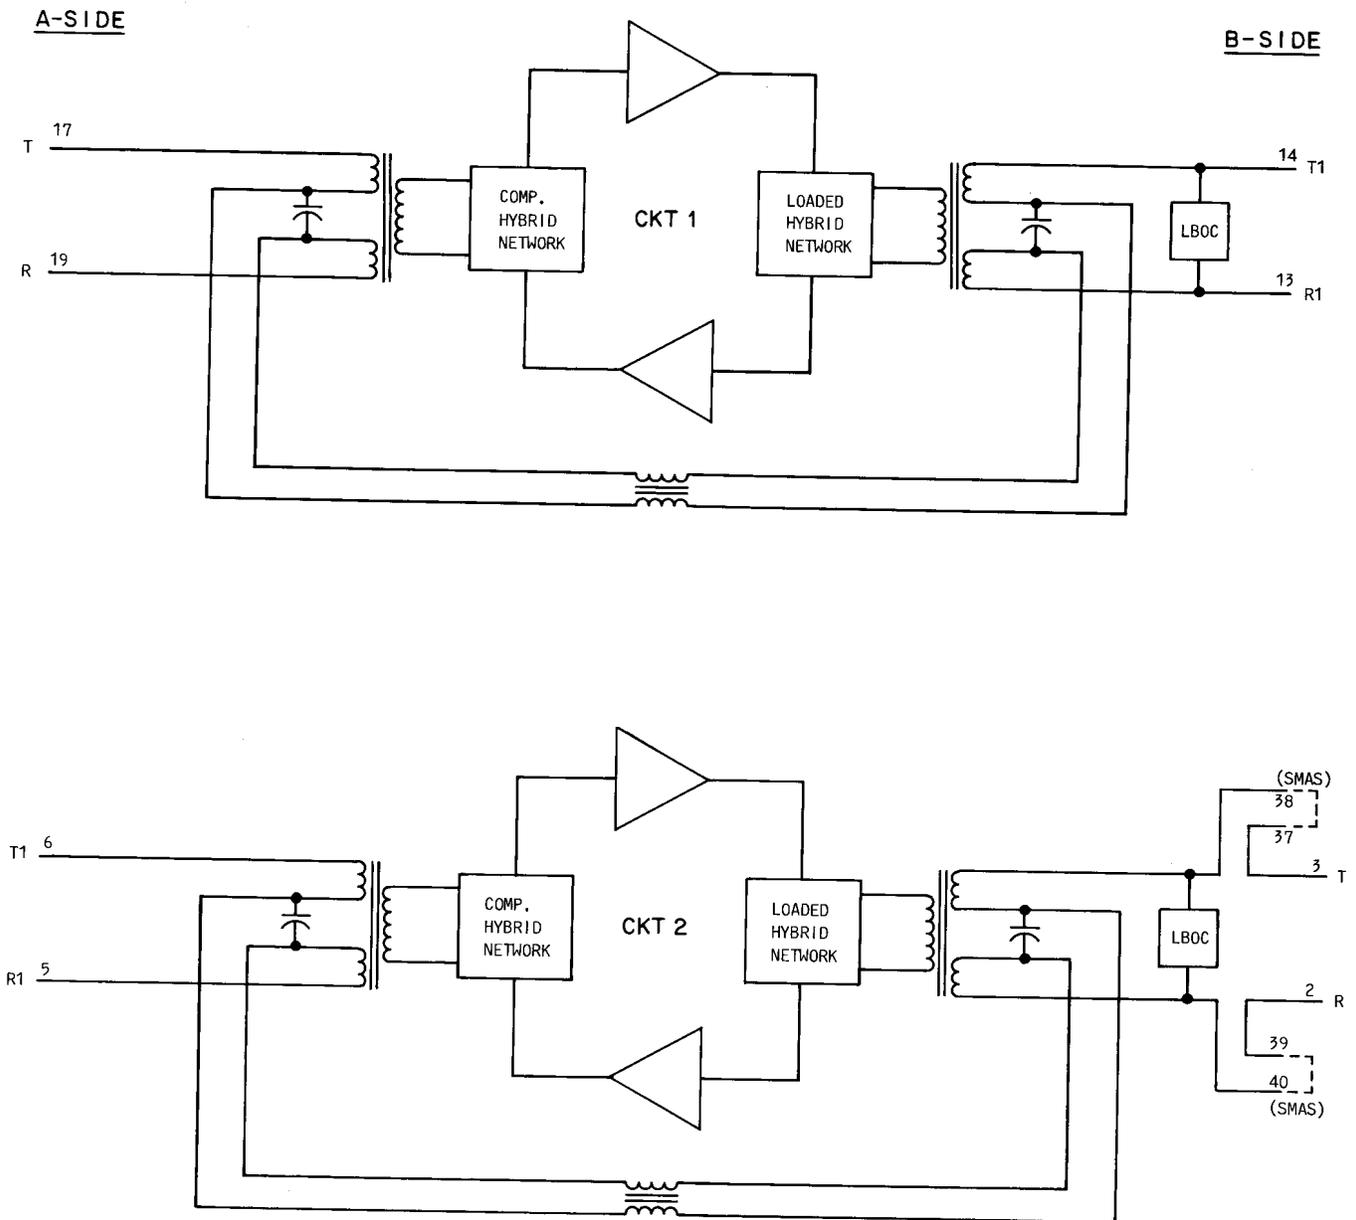

Fig. 3—Block Schematic of J99343PL Repeater Unit
**4.01** Figure 3 is a block diagram of the J99343PL MFT unit. The unit consists of two complete 2-2 wire repeater circuits. Each repeater consists of two line transformers, one active compromise hybrid, one active loaded cable hybrid, and a LBOC.